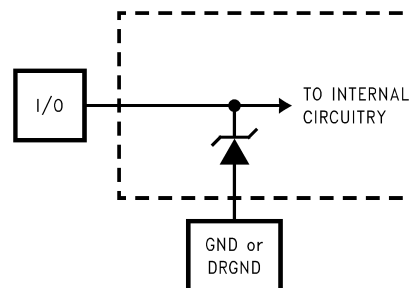

Figure 2.
- (1) The inputs are protected as shown below. Input voltages above V_A or below GND will not damage this device, provided current is limited per Note 4 under the Absolute Maximum Ratings Table. However, errors in the A/D conversion can occur if the input goes above V_A or below GND by more than 100 mV. As an example, if V_A is 3.3V, the full-scale input voltage must be $\leq 3.4V$ to ensure accurate conversions. See Figure 2
- (2) To ensure accuracy, it is required that $|V_A - V_D| \leq 100\text{ mV}$ and separate bypass capacitors are used at each power supply pin.
- (3) With the test condition for $V_{REF} = +1.0V$ ($2V_{P-P}$ differential input), the 12-bit LSB is 488 μV .
- (4) Typical figures are at $T_A = T_J = 25^\circ\text{C}$, and represent most likely parametric norms. Test limits are specified to TI's AOQL (Average Outgoing Quality Level).
- (5) Integral Non Linearity is defined as the deviation of the analog value, expressed in LSBs, from the straight line that passes through positive and negative full-scale.
- (6) Optimum dynamic performance will be obtained by keeping the reference input in the 0.8V to 1.2V range. The LM4051CIM3-ADJ or the LM4051CIM3-1.2 bandgap voltage reference is recommended for this application.
- (2) To ensure accuracy, it is required that $|V_A - V_D| \leq 100$ mV and separate bypass capacitors are used at each power supply pin.
- (3) With the test condition for $V_{REF} = +1.0V$ (2V_{P-P} differential input), the 12-bit LSB is 488 μV .
- (4) Timing specifications are tested at TTL logic levels, $V_{IL} = 0.4V$ for a falling edge and $V_{IH} = 2.4V$ for a rising edge.
- (5) Typical figures are at $T_A = T_J = 25^\circ C$, and represent most likely parametric norms. Test limits are specified to TI's AOQL (Average Outgoing Quality Level).